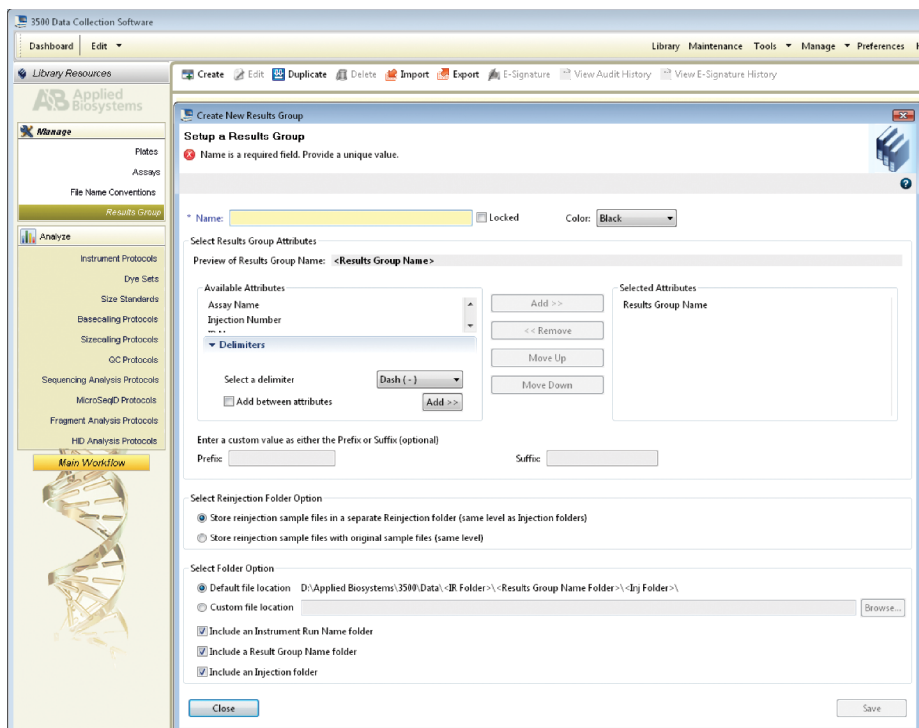

Figure 7. The ‘Create New Results Group’ window.
- To create a new Results Group (Figure 7), navigate to the Library. Select **Results Group**, then select **Create**. Alternatively, a previously created Results Groups may be used.